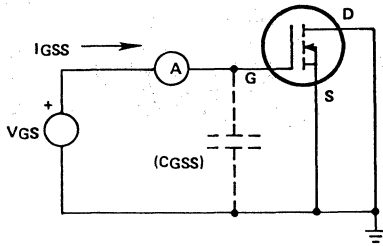

Figure 4. N-Channel I_{GSS} Measurement
B. I_{DSS} – The gate to body leakage current. It is measured with drain and source at ground, and gate biased to specified voltage. NOTE: Due to input capacitance, large die size MOS transistors may prove difficult to measure with automatic test equipment, unless a preconditioning test is performed to charge the gate capacitance prior to test. (See Figure 4 for the measurement circuit.)